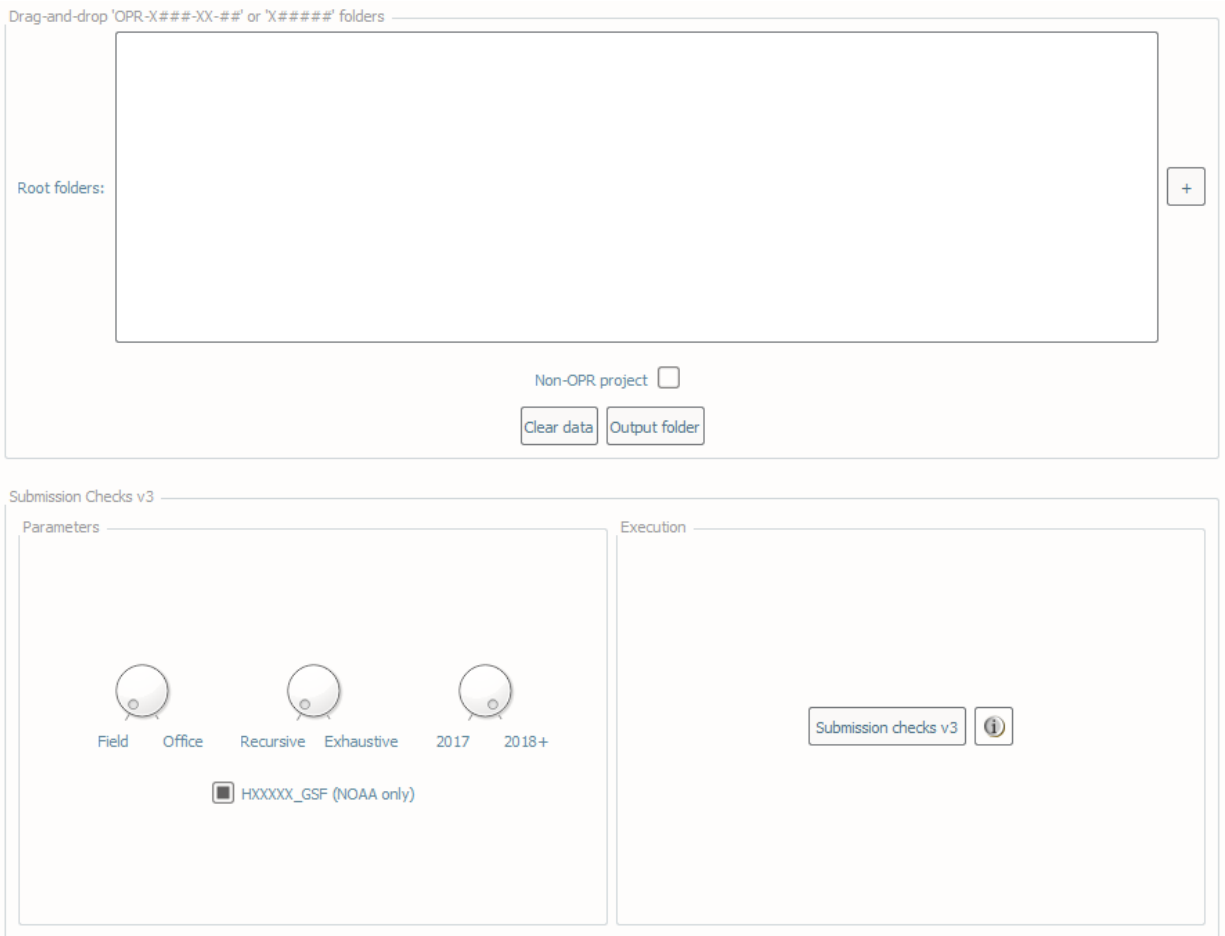

Fig. 2.35: The **Submission check** interface.
- In **Parameters** (Fig. 2.35, left side):
- In **Execution** (Fig. 2.35, right side), click **Submission checks v3**.